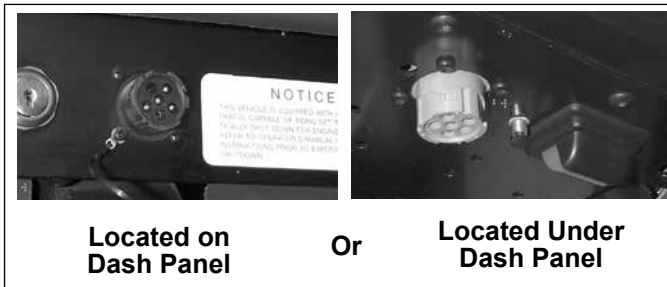

FIGURE 13 - TYPICAL VEHICLE DIAGNOSTIC CONNECTOR LOCATIONS (J1708/J1587, J1939)
3. Communicates the appropriate trouble code information over the serial communications diagnostic link as required. Hand-held or PC-based diagnostic tools attach to the vehicle diagnostic connector, typically located on or under the dash (see Figure 13).
See Figure 13 for typical vehicle connector locations.